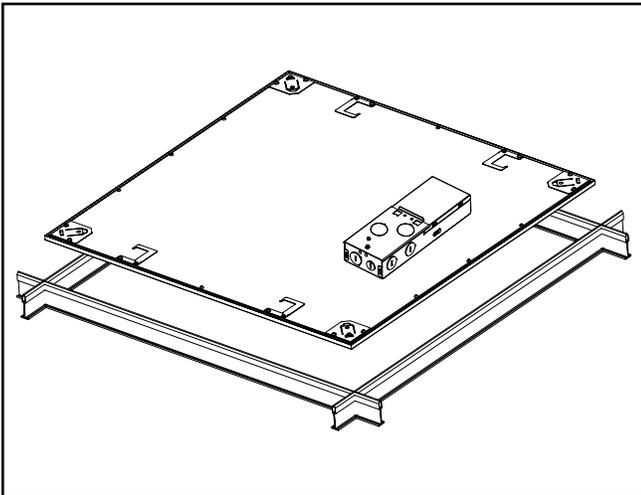

Figure 2.
5. Pass fixture through the grid at a 45 degree angle and lay fixture into the grid. (Figure 2.)